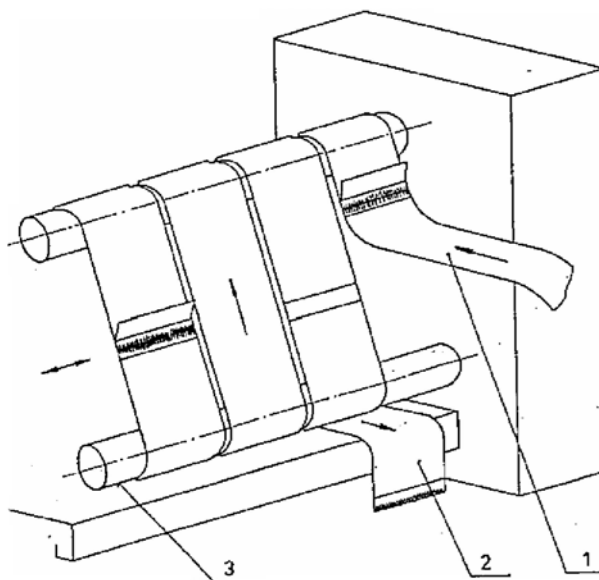

Fig. 5.4.C. Replacement and tightening of belts 504765
2. After lifting up the rear upper covers (fig.5.4.A, pos.4.1), remove rear panels (fig.5.4.A, pos.4) and lift off the filter cover (fig.5.4.A, pos.4.2).
3. Lift up the tightening roller of ironing belts to upper technological position (fig.5.4.A, pos.5).
4. Release the ironing belts (fig.5.4.C) and leave them loosely placed on the machine.
CHECK OF UNSTICKER FIG. 5.3.A + FIG. 5.4.A
REPLACEMENT OF UNSTICKER FIG. 5.3.A + FIG.5.4.A
TIGHTENING THE IRONING BELTS (FIG.5.4.B)
REPLACEMENT OF IRONING BELTS (FIG.5.4.C)
3. Insert the crank and turn the ironing belt (2) so that the belt connectors are accessible.
4. Lift up tightening roller of ironing belts to upper technological position (fig.5.4.A, pos.5).
5. Disconnect an old belt and connect the new belt (1) to the old one using braces.
2. Remove upper frontal cover (fig.5.4.A, pos.6), loosen or disassemble pressure springs (fig.5.5.B, pos.9).
2. Dismantle the upper frontal cover (fig.5.4.A, pos.6).
Check regularly once a day filter contamination caused by textile dust. It is necessary to remove dust from the filter to avoid decreased efficiency of ventilation. The filter sieve is accessible from the side or rear part of the machine, after the filter covers have been lifted off (fig.5.4.A, pos.4.2). After you lift off the cover, hold the filter sieve handle and take it out. Put it back after cleaning and insert it into the filter tub up to its end. Then close the filter cover.